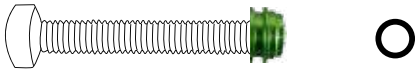

Fig 11
- Roll the O-ring onto the groove from the tip of the end cap. (Fig 11)